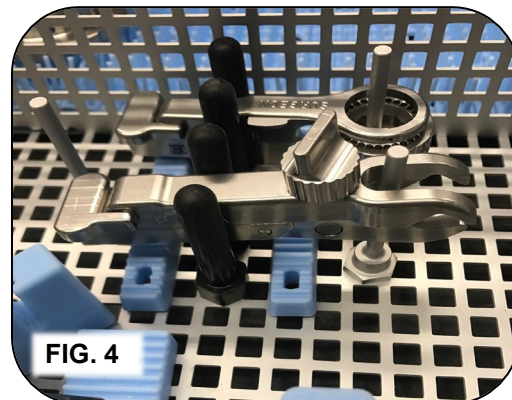

FIG. 4
1. If using a sterilization pouch, place each instrument in its own individual pouch. If using a sterilization tray, read the sterilization tray instructions for use before proceeding. Ensure that the sterilization tray has been cleaned according to the sterilization tray instructions for use and load the tray bottom according to FIG. 4.